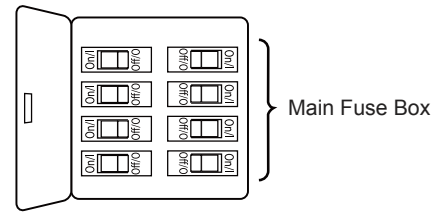

Figure 1
- 1. To set the code on receiver unit, slide dip switches to the same positions as set on the remote. (Figure 1)